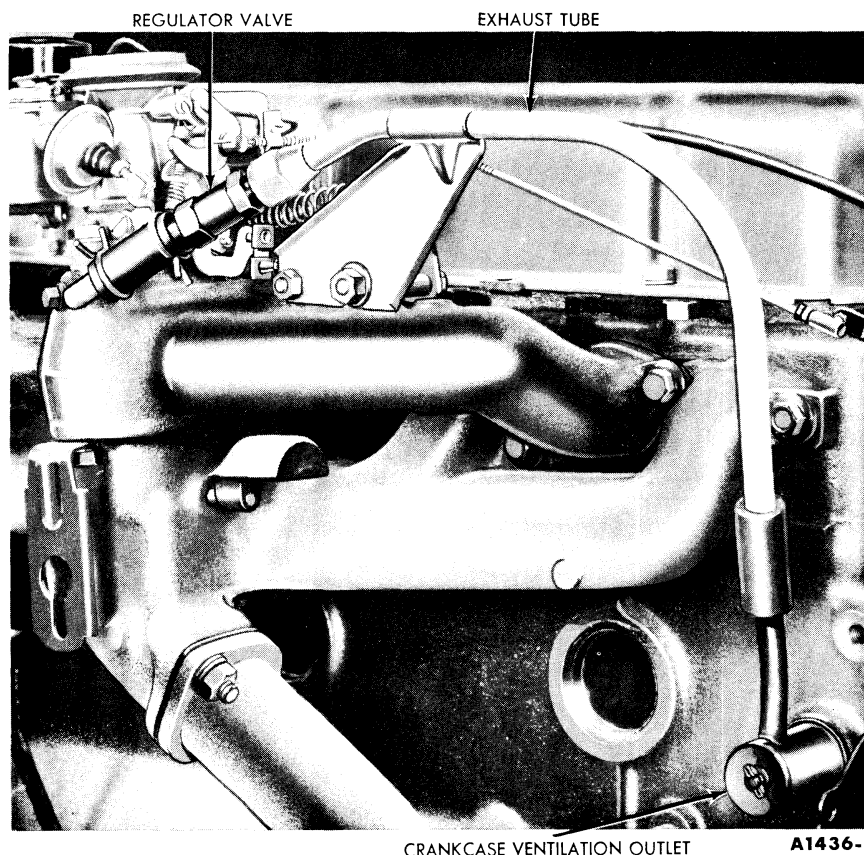

FIG. 16—Regulator Valve and Exhaust Tube
On an engine with positive crankcase ventilation, remove the exhaust tube and regulator valve as an assembly by disconnecting the bracket from the intake manifold, the exhaust tube from crankcase ventilation outlet and the regulator valve from the rubber connection (Fig. 16).
1. Remove the crankcase ventilation exhaust tube by disconnecting the bracket from the intake manifold, the exhaust tube from the crankcase ventilation outlet adapter and from the regulator valve assembly (Fig. 16).